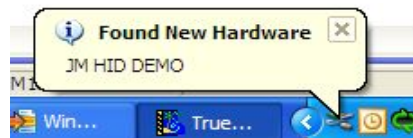

Figure D-2. Find New Hardware callout
1. Connect the hardware to the Windows host computer. As soon as you turn on the device, the HID device gets installed onto the Windows host computer. You must see the callout as shown in Figure D-2 on the right bottom corner of your screen. At this point, the windows installs the host driver for the device.